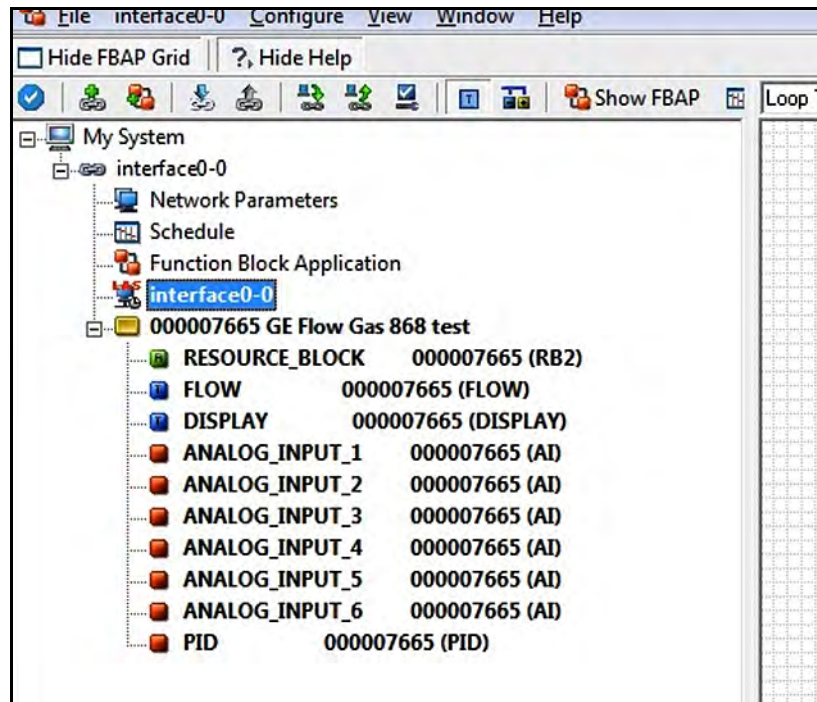

Figure 48: Configuration Utility Setup Example
Figure 48 below shows the Configuration Utility with a flowmeter on the network (GE Flow-XMT).
1. Double click on the AI block for which you wish to set the units (in the tree under GEFLOW-XMT; see Figure 48 on page 66).
1. Double click on the FLOW transducer block (in the tree under GEFLOW-XMT; see Figure 48 on page 66).